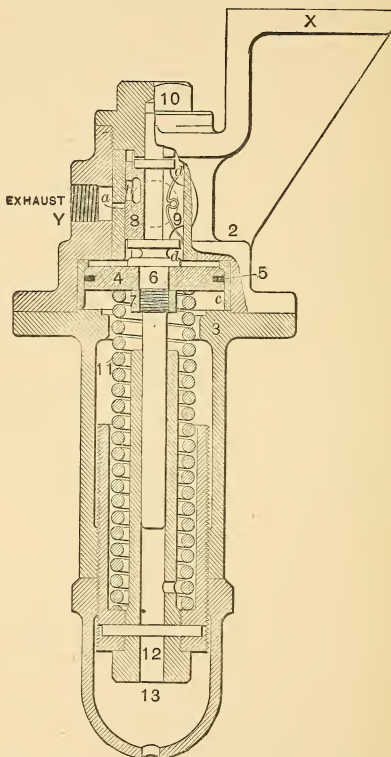

FIG. 31.—HIGH-SPEED BRAKE REDUCING VALVE.
A. The automatic reducing valve shown in the accompanying cut (Fig. 31).